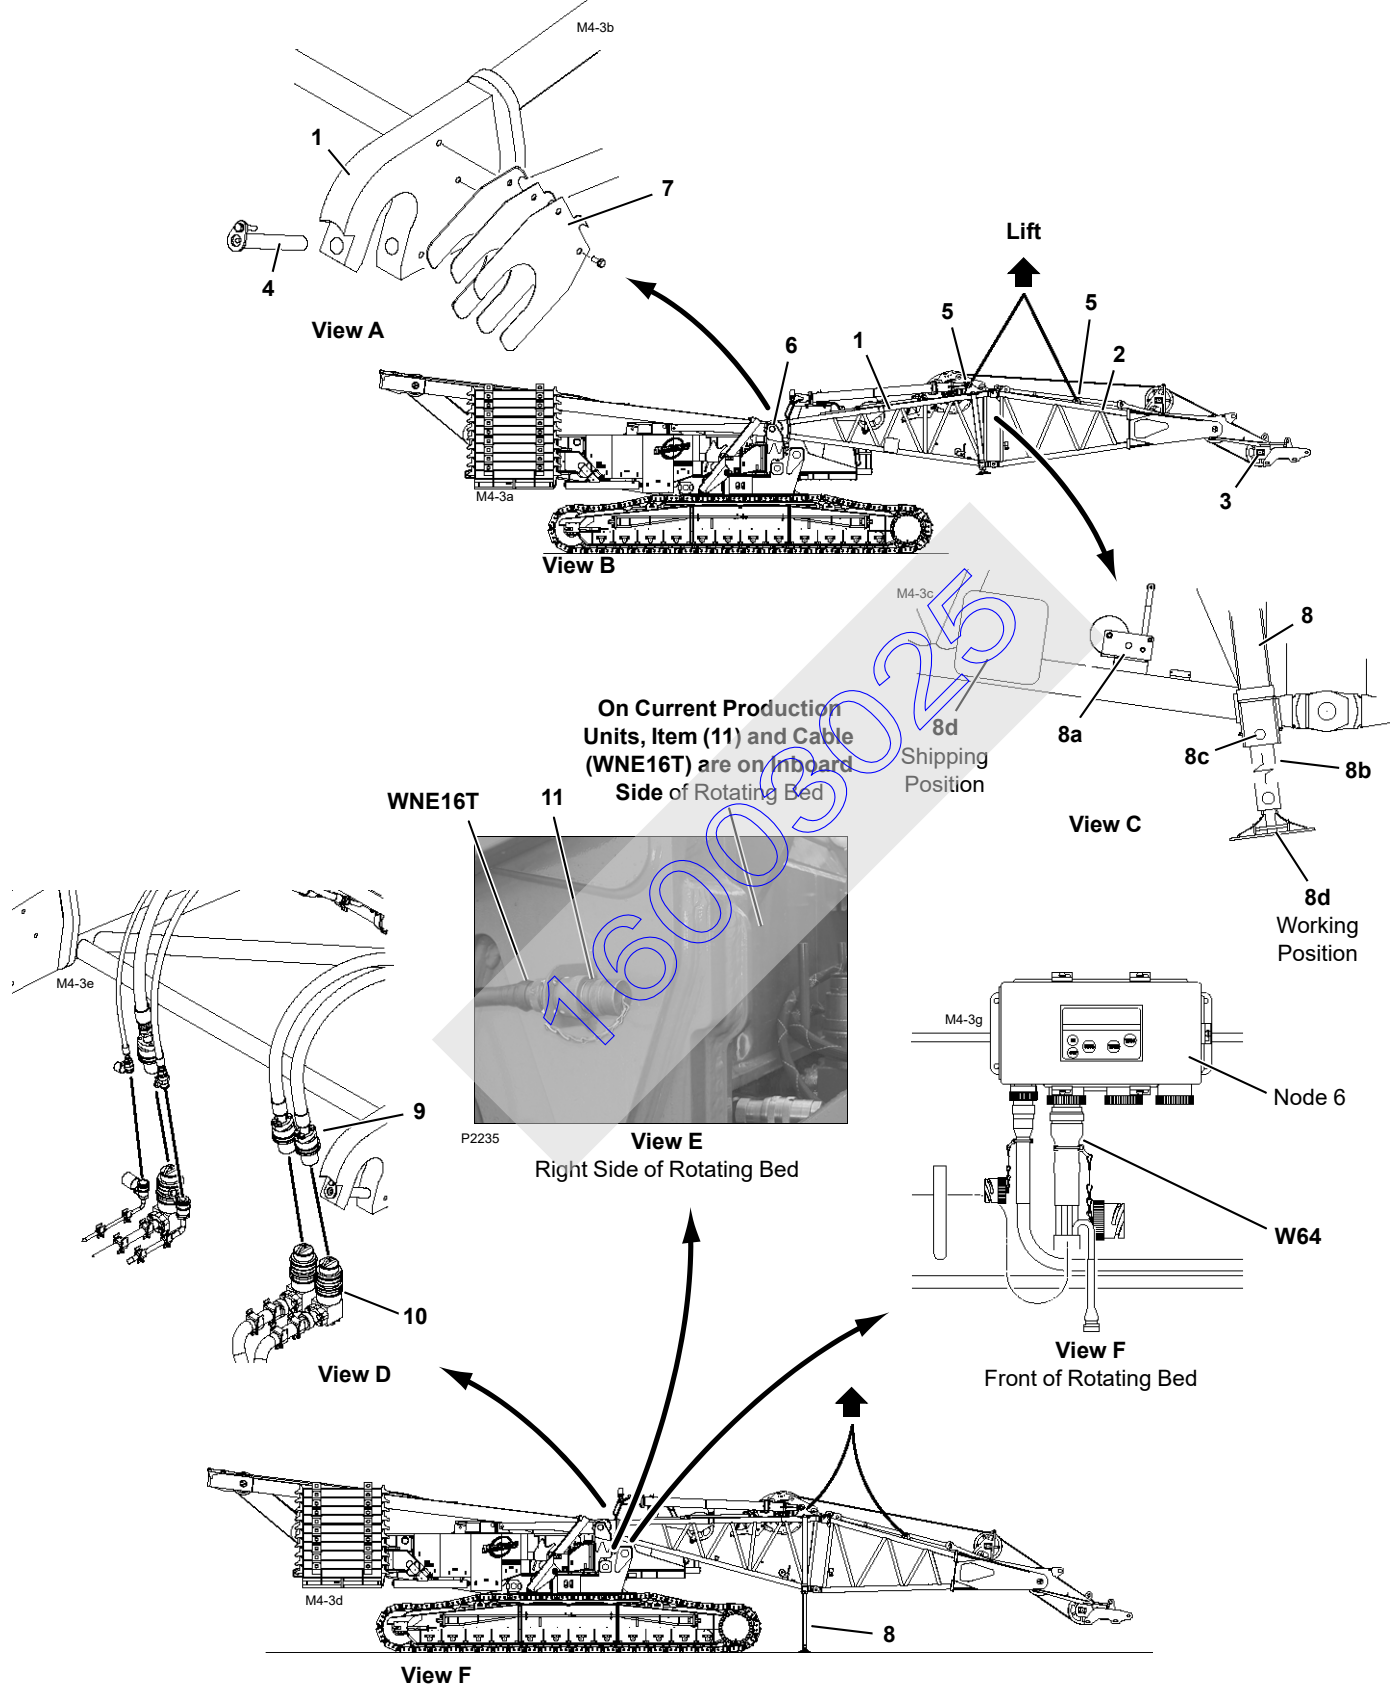

FIGURE 4-4
**NOTE:** The engine will not start when the boom is removed until terminating plug (11, View E, Figure 4-4) is connected to electric cable (WNE16T).
Legend for Figure 4-4
See Figure 4-4 for the following procedure.
6. Store mast supports (Figure 4-4, View C):